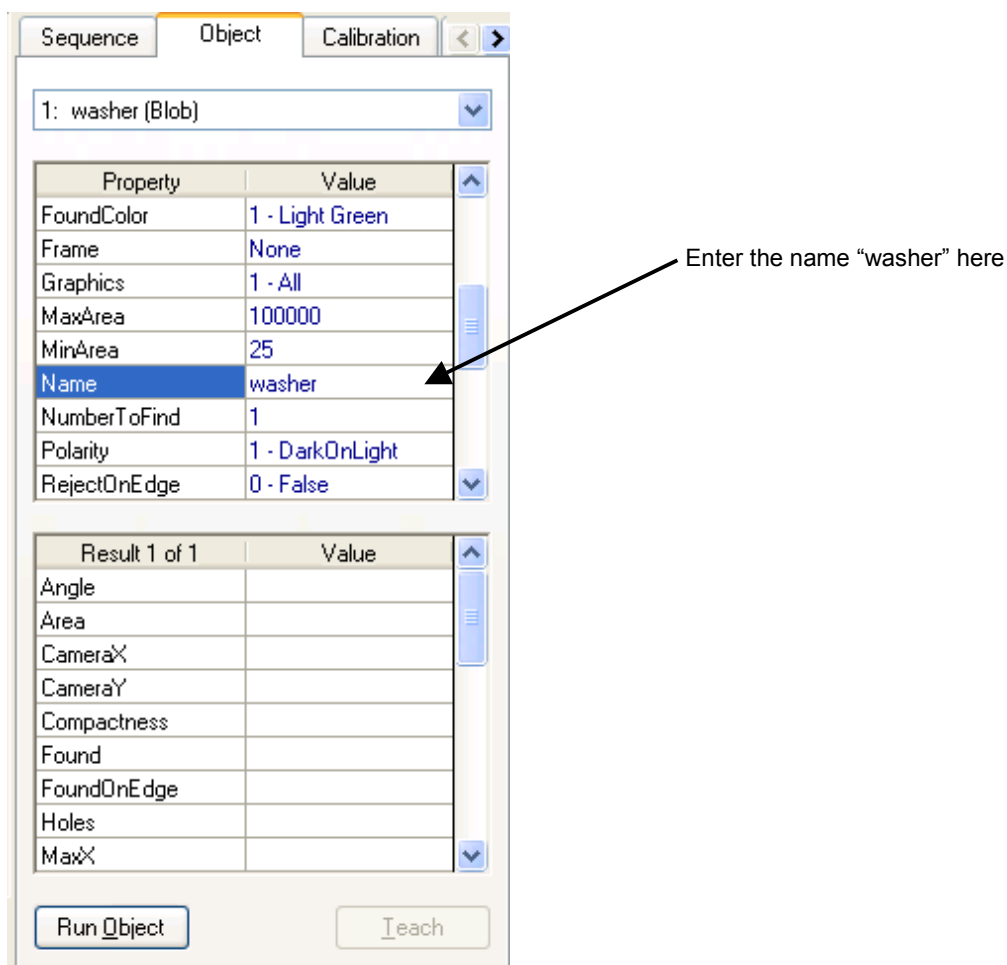

Figure 6: Object Tab showing properties for Blob object
- (1) Click on the Object tab located on the right side of the Vision Guide window. This will bring the Object tab forward. The Object tab will appear as shown in Figure 6.
- (2) Look at the Properties list on the Object tab. Find the Name property. Double click on the Value field for the Name property to cause the current name to be highlighted. Now enter the name "washer". We have just changed the name of our Blob object to "washer". If you look at the top of the Object tab in the Name drop down list, and the name label on the search window, you will see that the name has been changed in both places.